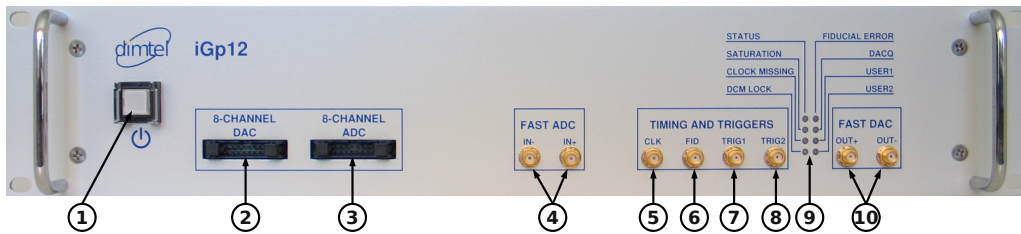

Figure 3: Front panel features
1. Connect RF clock at -3 dBm nominal level (Fig. 3, item 5);
2. Connect single-ended high-speed ADC input signal to **Ain+** (Fig. 3, item 4). The FS swing of this signal should be 780 mV peak-to-peak;
3. Connect a $50\ \Omega$ terminator to **Ain-** (Fig. 3, item 4);
4. Connect high-speed DAC output(s) (Fig. 3, item 10) to the appropriate back-end unit;
8. Push the power button (Fig 3, item 1) to turn on the system;
10. Push the power button (Fig 3, item 1) to turn the system off;